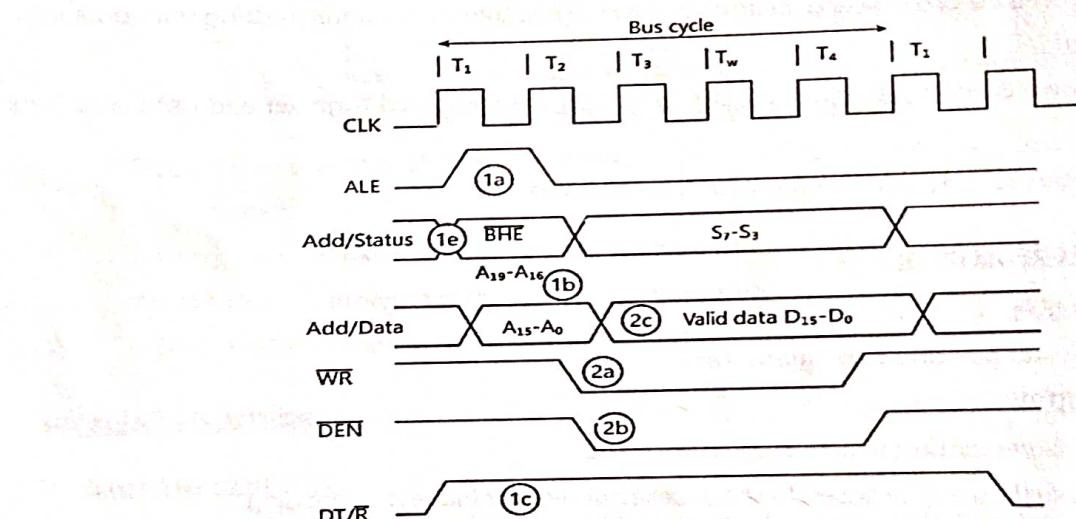

Figure 1.12: Timing Diagram for Write Machine Cycle of 8086.
4. 1 bus cycle is 4 system clocking periods T₁ to T₄ or T-states (assuming that there are no wait states) as shown in the figure 1.12 below.